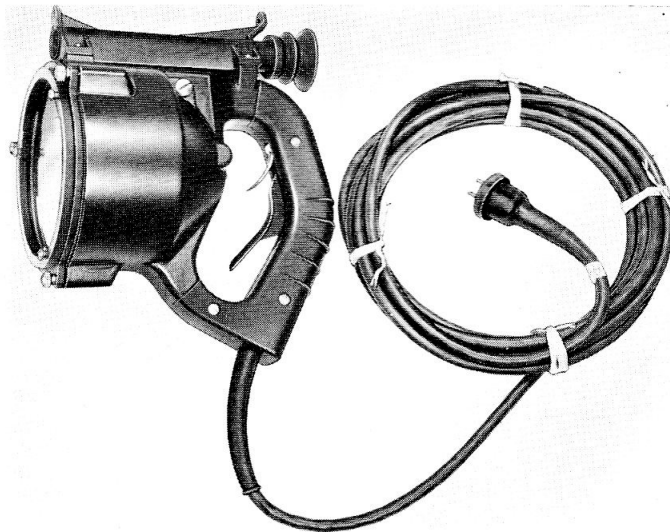

Fig. 1. Signalling lamp, Type C
1. The lamp Type C (*fig. 1*), is a visual signalling lamp and may be used during the day or night. A double sighting arrangement is provided for focusing the beam on target. The signalling is effected by a shutter which operates over the filament lamp, and when covering the unblackened portion of it prevents light from falling on the reflector.